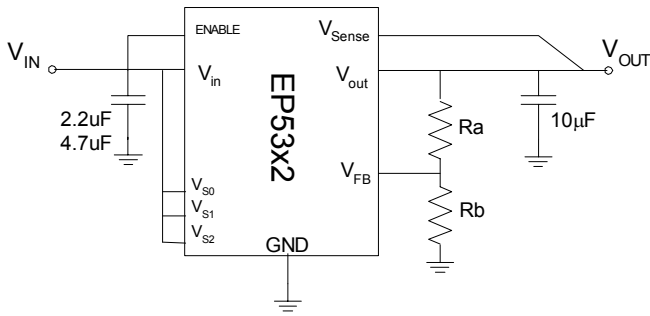

Figure 5. External Divider.
As described above, the external voltage divider option is chosen by connecting the VS0, VS1, and VS2 pins to  $V_{\text{IN}}$  or logic "high". The EP53x2Q uses a separate feedback pin,  $V_{\text{FB}}$ , when using the external divider. VSENSE must be connected to  $V_{\text{OUT}}$  as indicated in Figure 5.
**Recommendation 3:** Multiple small vias (0.25mm after copper plating) should be used to connect ground terminals of the Input capacitor and the output capacitor to the system ground plane. This provides a low inductance path for the high-frequency AC currents, thereby reducing ripple and suppressing EMI (see Fig. 5, Fig. 6, and Fig. 7).